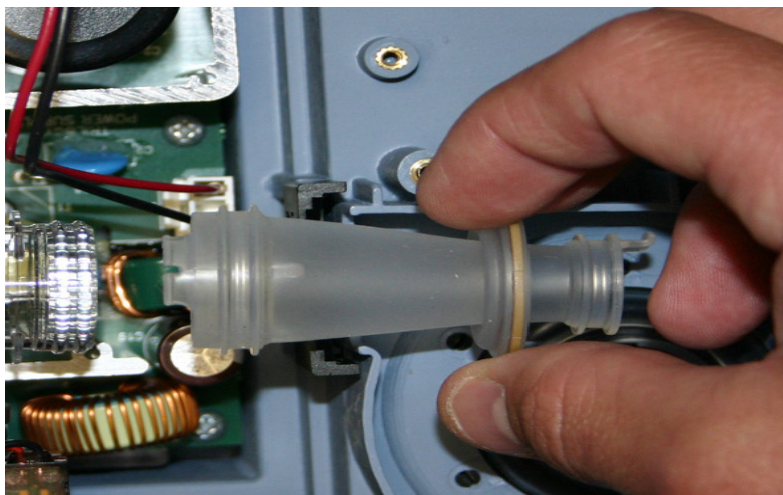

FIGURE 8-43: DISCONNECTING/INSTALLING THE TRANSITION TUBE FROM FLOW SENSOR ASSEMBLY
1. Connect the Transition Tube to the Flow Element Assembly. Refer to Figure 8-43 for more detailed instructions.